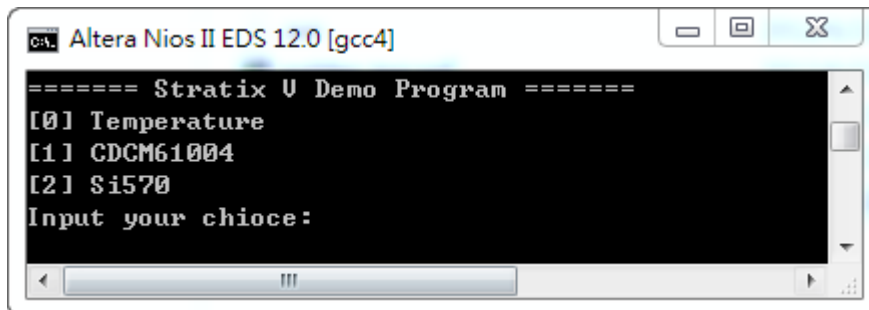

Figure 5-7 Menu of Demo Program
- For temperature test, please input key ‘0’ and press ‘Enter’ in the nios-terminal, , as shown in **Figure 5-7**.